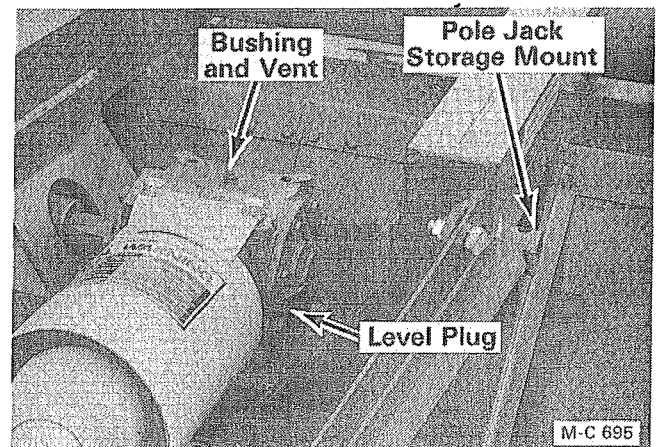

Figure 25
1. Periodically check the oil level in the gear box. Remove the oil level plug on the left side of the gear box, see Figure 25. The oil level should be even with the bottom of the level plug hole. If not, remove the bushing and vent on the top of the gear box and add Mobilfluid 423 multipurpose transmission lubricant or equivalent until it just runs out of the level plug.